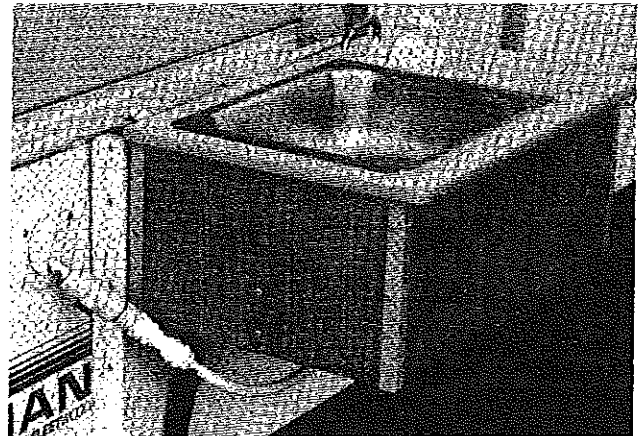

FIGURE 37
46. Once the utility lines are disconnected from inside the camper, the sink module can be relocated outside by attaching it to the open latched access door using the support brackets located at the rear of the module. Connect the water line by using the quick disconnect high pressure line provided at the cable hatch on the right rear body panel or the low pressure line (to portable storage tank). See Figure 37.